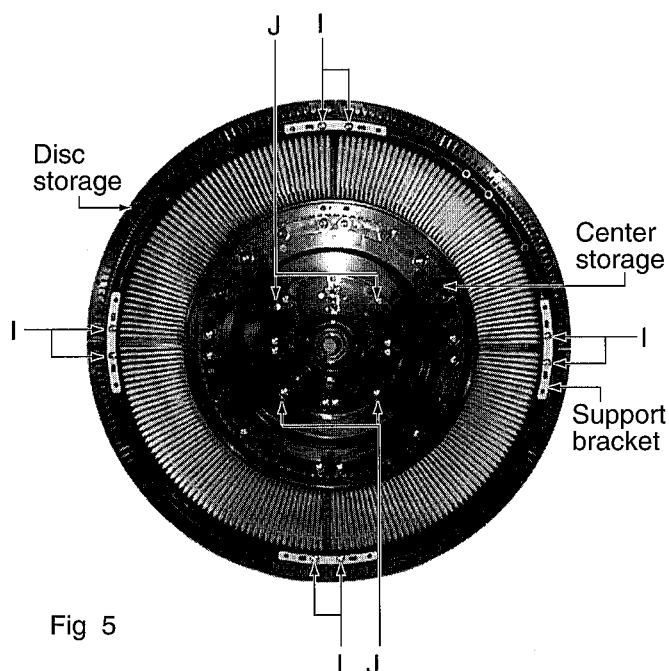

Fig 5
* twenty screws "K" is except "I" "J" (Fig 5)